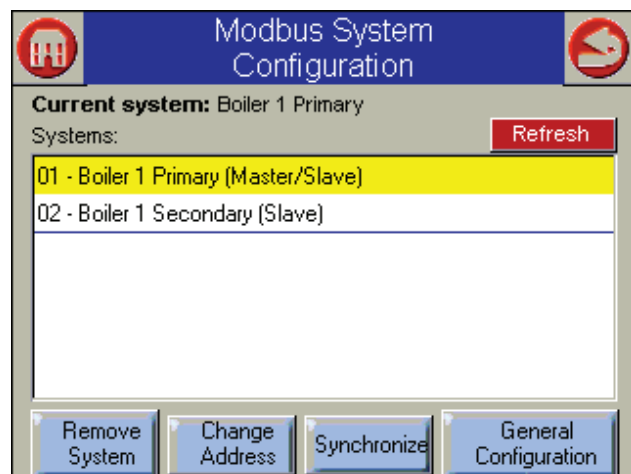

Fig. 67 – Modbus System Configuration Screen
- Press the Modbus System Configuration button. Figure 67 shows the Modbus System Configuration screen.
10. Now you can use the same process to set the address for the Secondary control for Boiler 1. On the Modbus System Configuration screen (Fig. 67), press the second line – Boiler 1 Secondary. Change the address to the correct address taken from Table 3. In this case, the correct address would be “2.”